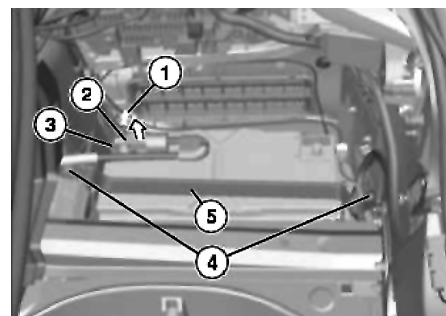

Fig. 2 Battery disconnection
5. Disconnect IBS electrical connector (1), **Fig. 2**.
6. Loosen nut, and disconnect positive battery cable (2), **Fig. 2**.
7. Remove nuts (4), and remove rollover protection bracket (5), **Fig. 2**.
5. Install rollover protection bracket (5), and tighten nuts as required, **Fig. 2**.
6. Connect positive battery cable (2). **Torque** terminal nut to 44 inch lbs., **Fig. 2**.
7. Connect IBS electrical connector (1), **Fig. 2**.